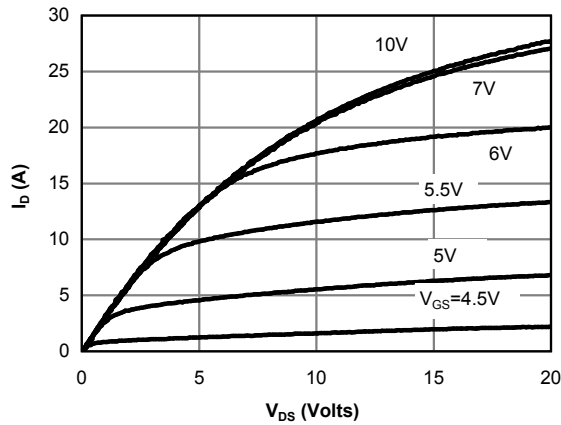

Figure 1: On-Region Characteristics@25°C
E. The static characteristics in Figures 1 to 6 are obtained using $<300\mu\text{s}$ pulses, duty cycle 0.5% max.